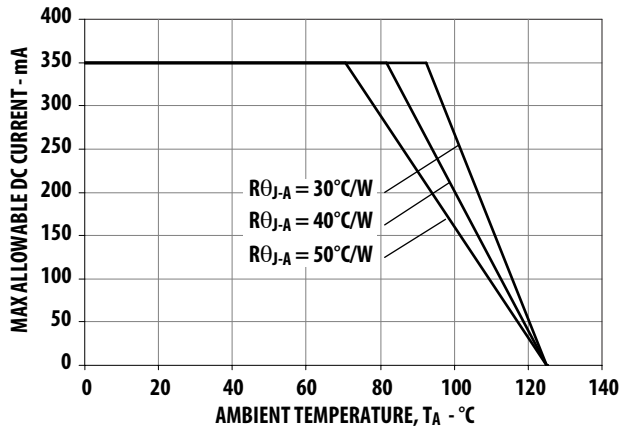

Figure 7. Maximum Forward Current vs. Ambient Temperature.
1. Derate linearly based on Figure. 7 for AllInGaP and Figure. 17 for InGaN.